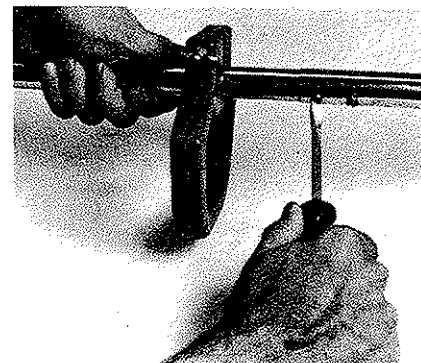

FIGURE 3
3. Align tube holes, insert screws, and tighten. Figure 3.